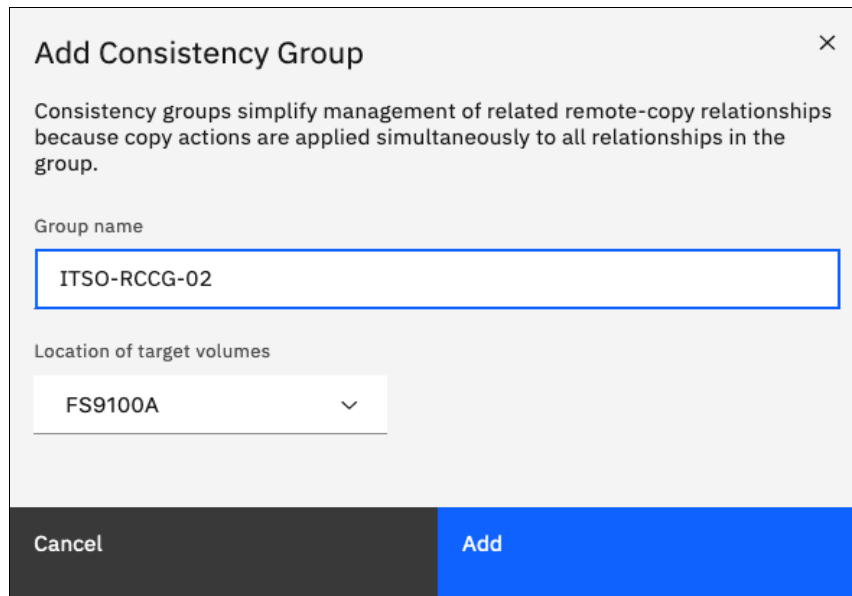

Figure 10-124 Entering a name for the new consistency group
2. Enter a name for the consistency group, select the target system, and click **Add**, as shown in Figure 10-124. The consistency group is added to the configuration with no relationships.